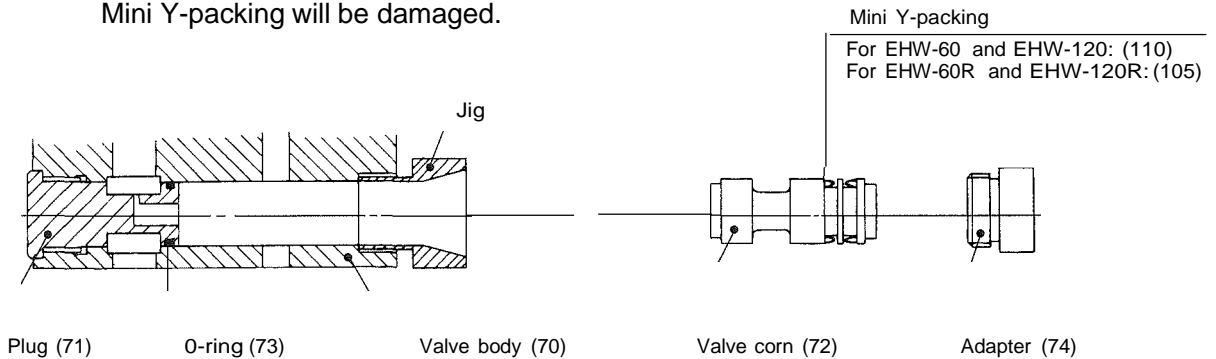

Fig. 11
Attach the jig to Valve body (70), then insert Valve cone (72) into Valve body (70) through the jig and press by hand until Valve cone (72) touches Plug (71). (See Fig. 11.)